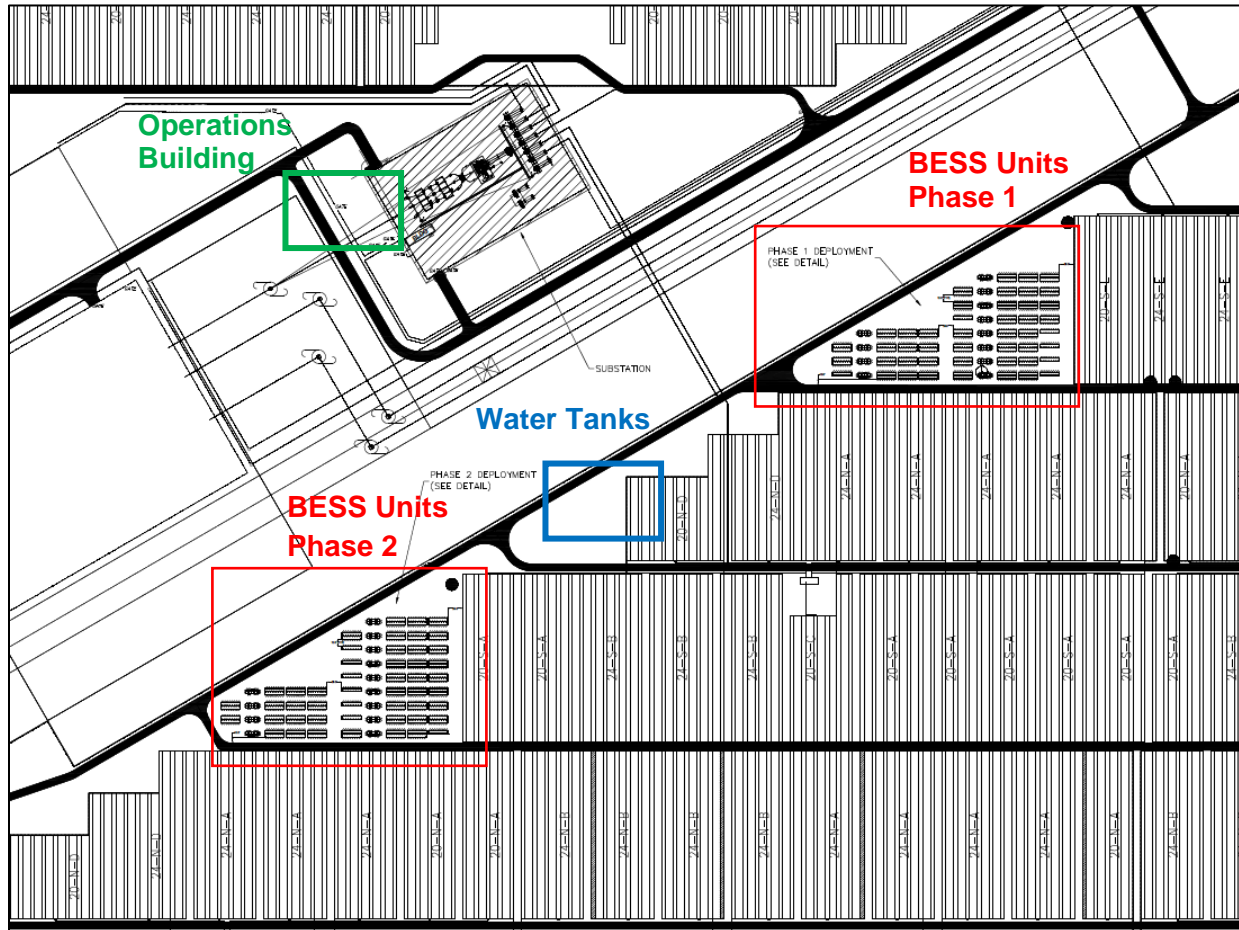

Figure 1 – BESS Layout. Note Water Tanks Are Inside Fence Line. Note operations building shall serve as incident command post
- **Site Alarm Panel:** A first responder station, which will house an HMI (human machine interface) control panel will be on site at the primary Incident Command post (IC) location (denoted in Figure 1 as the operations building). This panel will allow first responders and SMEs to access information about the entire site, including alarm conditions and the status of every individual container.